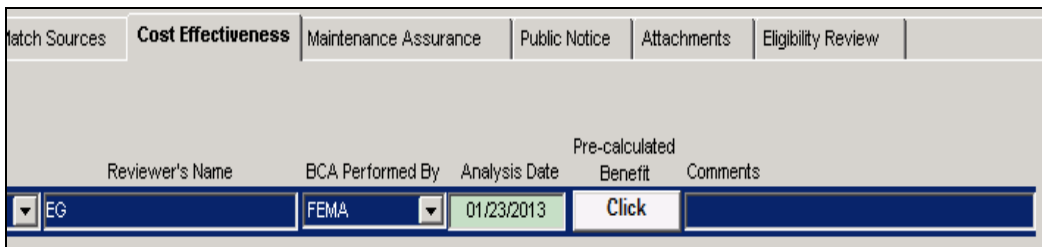

Figure 6-59: Cost Effectiveness - Right Side
3. Scroll the horizontal bar to the right to view the right-hand part of the new row (Figure 6-59).